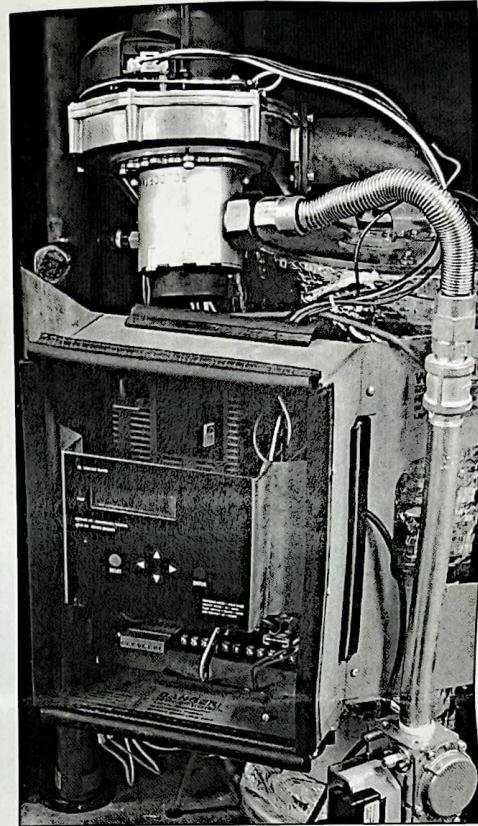

Figure 23 - Boiler with Installed Combustion Assembly
Step #4 - Plug the two (2) wire harnesses into the blower. See Figure 23.